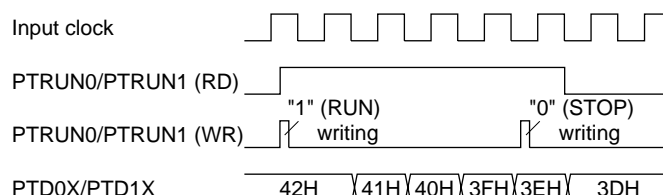

Fig. 5.2.1 Timing chart for RUN/STOP control
- (1) When reading counter data, be sure to read the low-order 4 bits (PTD00–PTD03, PTD10–PTD13) first. Furthermore, the high-order 4 bits (PTD04–PTD07, PTD14–PTD17) should be read within 0.73 msec (when fOSC1 is 32.768 kHz) of reading the low-order 4 bits (PTD00–PTD03, PTD10–PTD13).
- (2) The programmable timer actually enters RUN/STOP status in synchronization with the falling edge of the input clock after writing to the PTRUN0/PTRUN1 register. Consequently, when "0" is written to the PTRUN0/PTRUN1 register, the timer enters STOP status at the point where the counter is decremented (-1). The PTRUN0/PTRUN1 register maintains "1" for reading until the timer actually stops. Figure 5.2.1 shows the timing chart for the RUN/STOP control.